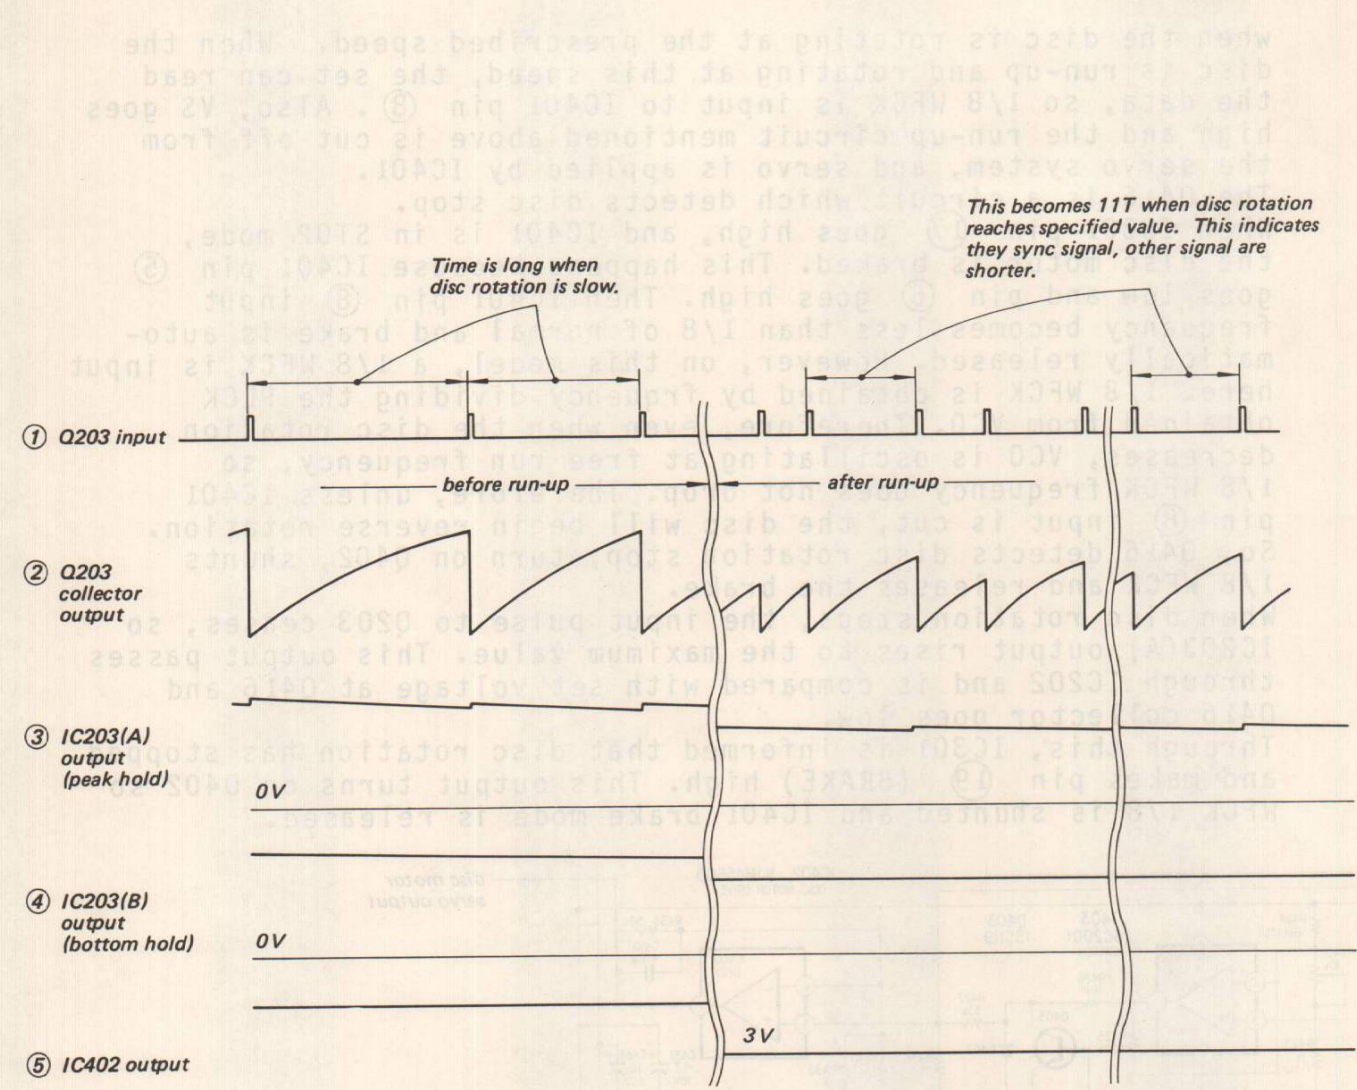

Fig. 13 CLVS Circuit Waveform
The servo circuit is kicked when the disc starts rotating. This kick is performed when IC401 pin ⑦ input (CLV) goes low. It goes high once in run-up mode, and after run-up, goes low again. When the servo circuit is kicked and the disc rotates, VS goes low and Q403 turns off. A data pulse, as shown in Fig. 13 ①, is input to Q203. The rotation speed of the disc is still slow at this time, and the longest intervals of the sync signals in the data are longer than normal value 11T. This pulse is changed to a sawtooth wave by Q203, R244 and C218 as shown in Fig. 13 ②. The peak of this sawtooth wave corresponds to the length of the pulse intervals in Fig. 13 ①. The longer the interval, the higher the peak. After this the highest value of this sawtooth wave is held by the IC203(A), D201, C219 peak hold circuit and it is changed to DC. Therefore this DC voltage is determined by the sawtooth wave peak value of the longest sync signals in the data. This voltage must be lowered as the disc rotation speed becomes faster, so there is a discharge resistor, R245. The voltage which was peak held is bottom at IC203(B). This is to prevent the voltage from rising even if data interval which is longer than sync signal enters momentarily because of data drop-out. The voltage obtained in this way is compared with the voltage set at RV402 by IC402(A), and the servo the signal is obtained. RV402 is set so that IC402(A) output is about 3V